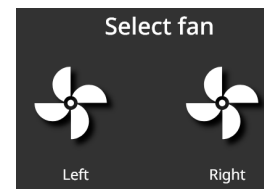

Figure 1
- Select the fan to replace (see Figure 1).